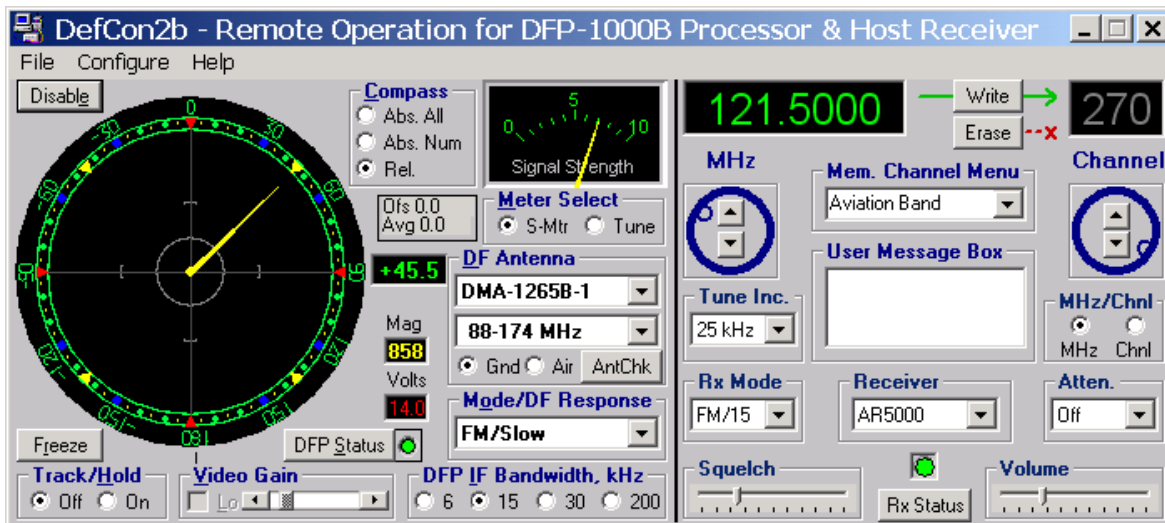

Figure 15 - DefCon2b Main Screen
DefCon2b is RDF Products' Windows user-interface software package that simultaneously can run the DFP and an appropriate selected host receiver using a single host computer serial port. The purpose of DefCon2b is to emulate a "virtual DF receiver" in software. DefCon2b is capable of exercising all of the DFP's major features and providing bearing displays, an S/Tune meter, and other indications. In addition, it is capable of emulating all of the host receivers features necessary for most DF applications. DefCon2b's main screen is illustrated in Figure 15.
- c. DefCon2b Video Gain Control Features - With this background in mind, it is important that a software video gain control capture the full functionality of the DFP-1000B hardware video gain control features as is done in DefCon2b. Referring again to the DefCon2b main screen illustration (Figure 15), the **Video Gain** slider directly corresponds to the DFP-1000B **VIDEO GAIN** control. When this slider is moved, DefCon2b sends the appropriate video gain commands (GAIN=00 through GAIN=16) that control the afore-mentioned 0-30 dB DFP video attenuator.
A signal-strength meter is another important component of a good mobile DF system. Although not as important as the real-time polar bearing display, the S-meter is the DF system's best relative ranging indicator and serves the important purpose of alerting the user that the DF system is getting close to the target transmitter. See Figure 15 for the virtual S-meter display employed by DefCon2b (this meter can also be selected as a center-tune meter). Although this DefCon2b S-meter display is rather elaborate, a simple bar graph display is equally effective. In any case, we strongly recommend that programmers incorporate an S-meter into their software since it is a useful indication and easy to implement.